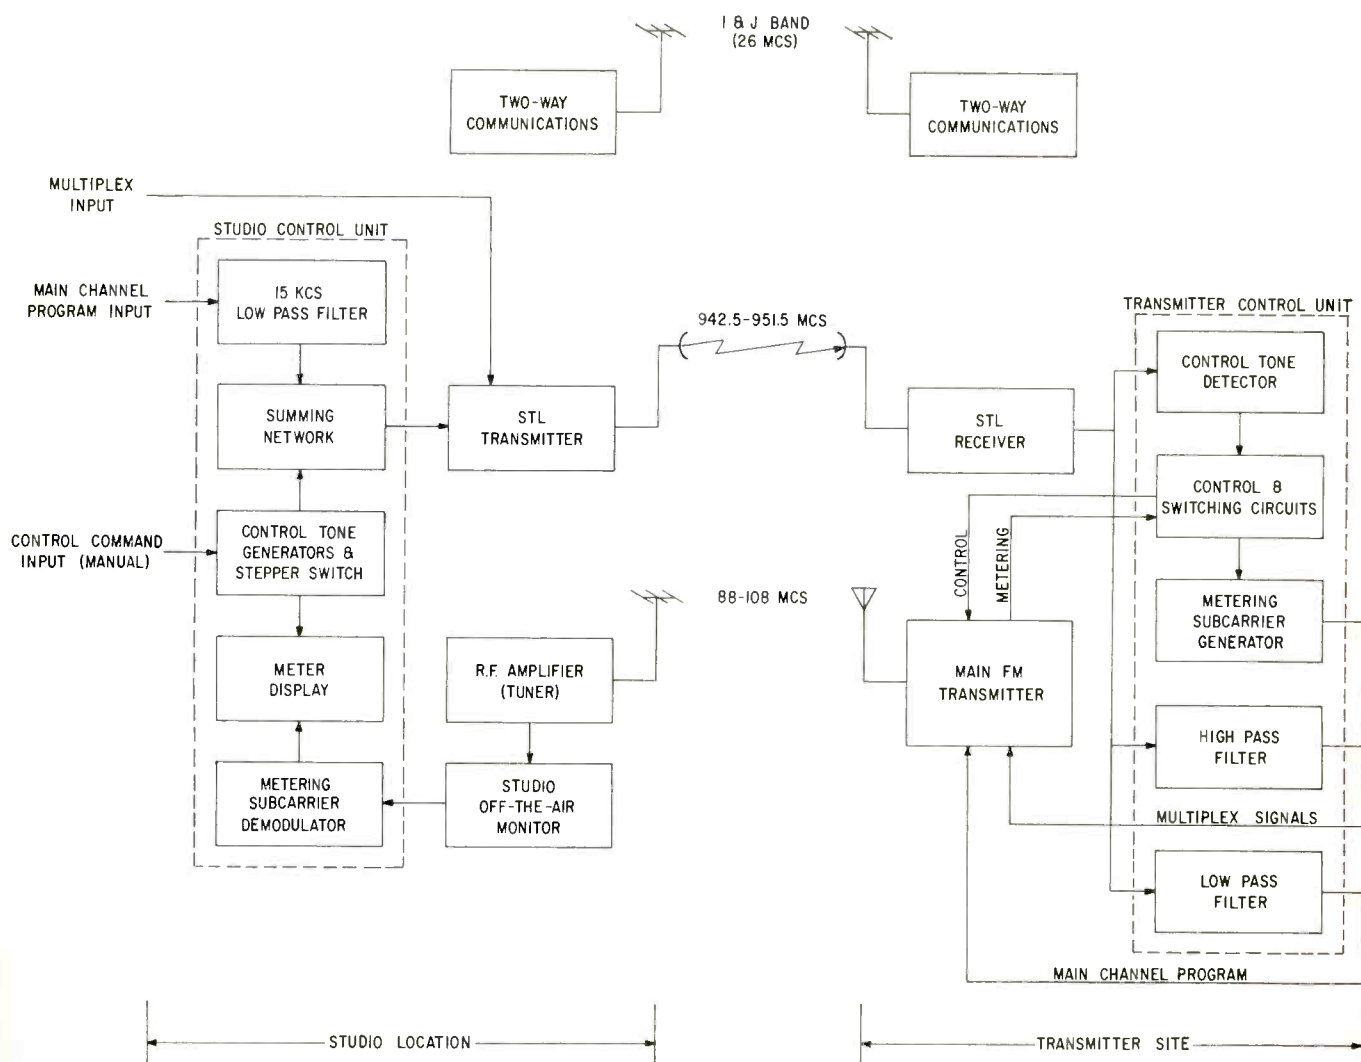

Figure 1. Block diagram of basic elements of a radio remote control system.
Let us begin by considering what a radio remote control system should provide and then discussing how it is best accomplished. First and most obvious, the system should provide for (1) positive control circuits with the necessary fail-safe protection and, equally important, (2) a reliable means of returning the transmitter meter readings to the controlling studio. It should further provide (3) a method of relaying a broadcast quality program channel to the remote transmitter, and it should have (4) the capacity for adding several multiplex program channels. Lastly, the remote control system should include (5) a means of communication between the studio and transmitter. Figure 1 is a block diagram of the basic requirements as established here.
other intelligence carried over the STL to avoid undesirable cross-modulation products. As shown in Figure 1, the metering information is returned to the control point by a multiplex channel on the main FM carrier. In May, 1960, Section 3.293 of the F. C. C. Rules and Regulations was amended to authorize the use of a multiplex subcarrier in the 20 kcs to 75 kcs spectrum to convey metering information. Compatibility of the metering subcarrier with existing or future (stereo) SCA operations is, of course, a prime consideration but presents no problem in a properly designed system. For an AM transmitter, other means must be employed to return the metering information as a multiplex subcarrier cannot be used.